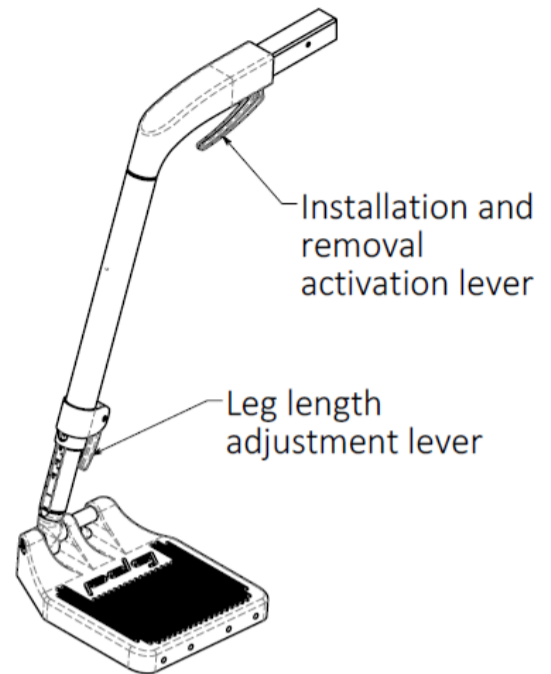
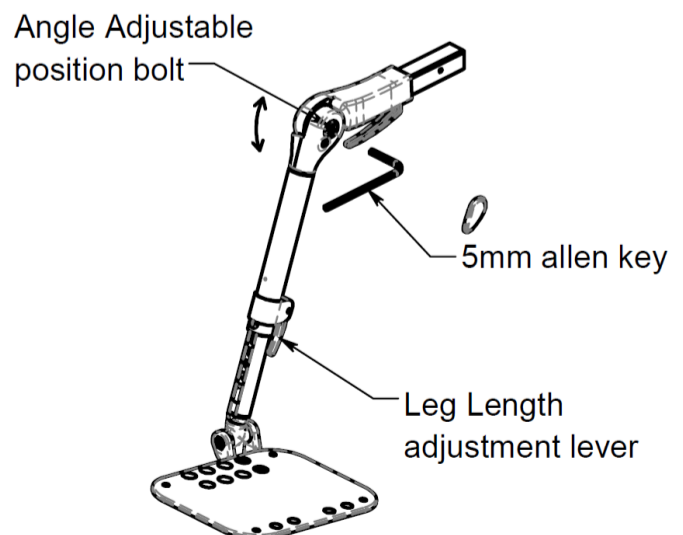

Figure 16.17: Easy-Out Plug-In 70° Front Rigging
Figure 16.18: Easy-Out Angle Adjustable Front Rigging
- Release the footrest extension adjustment lever. This is shown in Figure 16.17 and Figure 16.18.